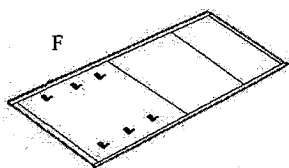

Figure 1.
2. Put the Back Panel (F) face up on a flat soft working surface (Figure 1). Then install the Rail Holder (M) and secure with screws (N).